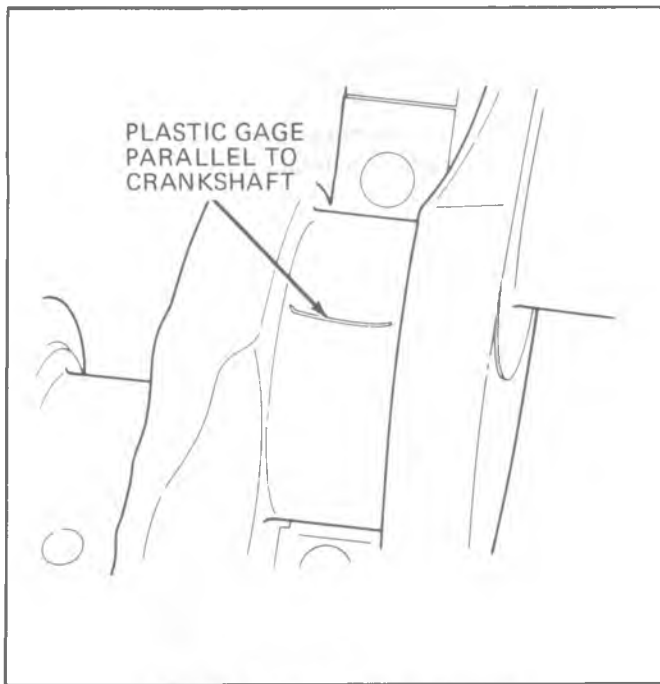

Fig. 46--Gaging Plastic on Journal
2. Place a piece of gaging plastic the full width of the bearing (parallel to the crankshaft) on the journal (fig. 46).